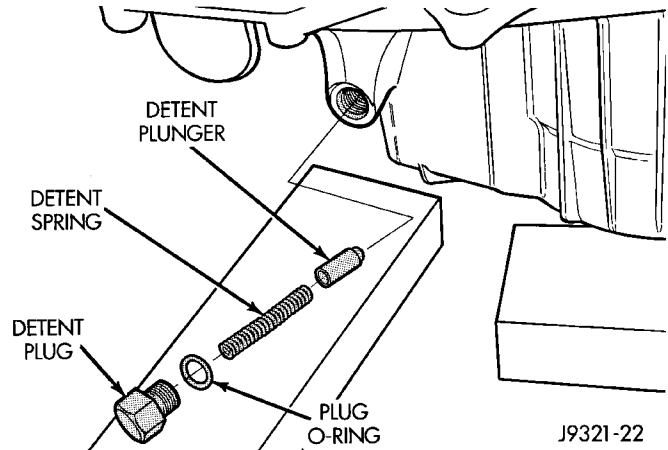

Fig. 63 Shift Detent Components
- (9) Install new O-ring on detent plug (Fig. 63).
- (10) Lubricate detent plunger with transmission fluid or light coat of petroleum jelly.
- (11) Install detent plunger, spring and plug (Fig. 63).
- (12) Verify that plunger is properly engaged in sector.